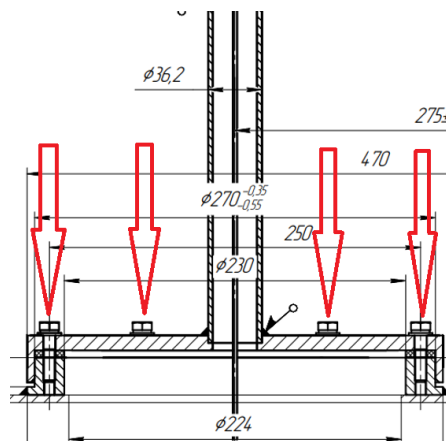

Figure 4. Installation of the DN-130(P) in enclosed configuration
8. Install the sensor on the support and tighten all its bolts (see Fig. 4).